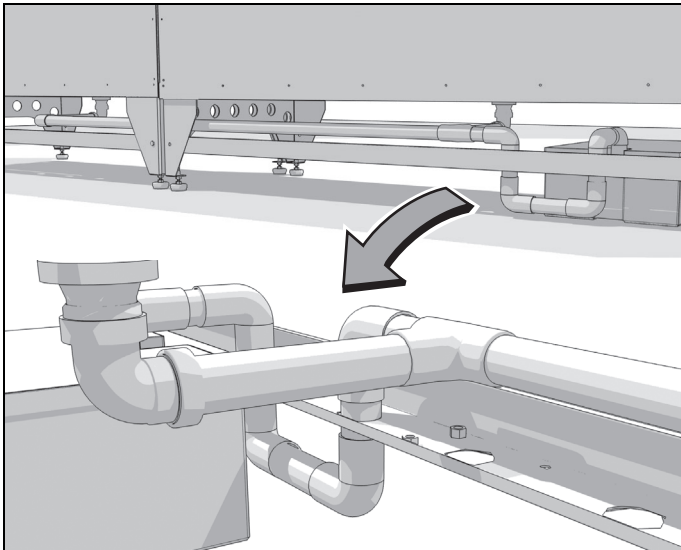

Fig. 4.8: Oil container serving two filter banks
- Refer to Fig. 4.8 for mounting of one oil container serving two air inlet modules.